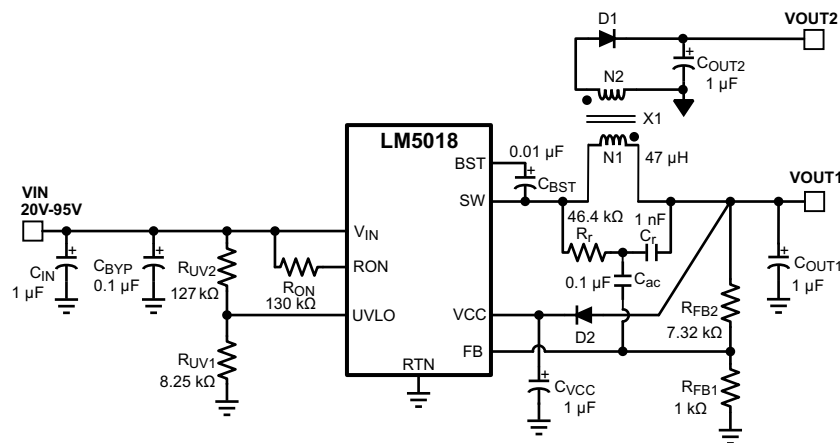

图 8-5. Isolated Fly-Buck™ Converter Using LM5018
An isolated supply using LM5018 is shown in 图 8-5. Inductor (L) in a typical buck circuit is replaced with a coupled inductor (X1). A diode (D1) is used to rectify the voltage on a secondary output. The nominal voltage at the secondary output (V_{OUT2}) is given by 方程式 20.